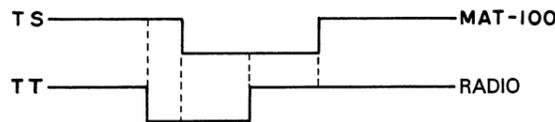

Fig. 1 Interface timing chart
**For tuning****For abnormal tuning****For through operation****Fig. 1 Interface timing chart****• Manual Tuning**